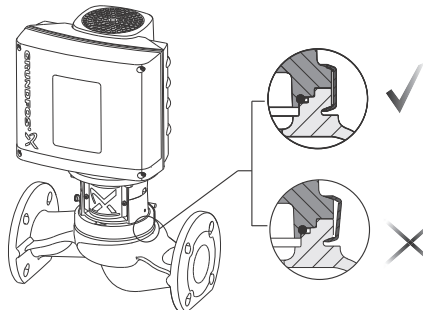

Fig. 11 Positioning of clamp ring
- The clamp must be positioned correctly in the flange recess of both the pump head and the pump casing. See fig. 11.